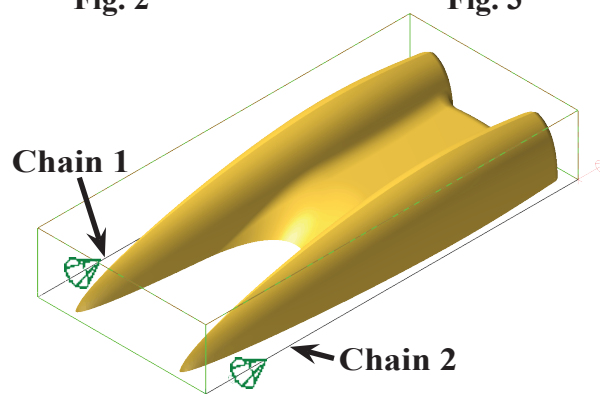

Fig. 4
Step 4. Click Chain 1 and Chain 2 at the **bottom** of the bounding box, **Fig. 4**. If the chaining directions arrows are **not** pointing in the same direction - click Reverse .